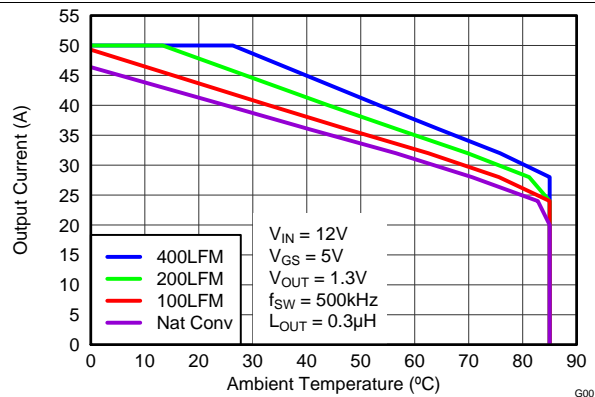
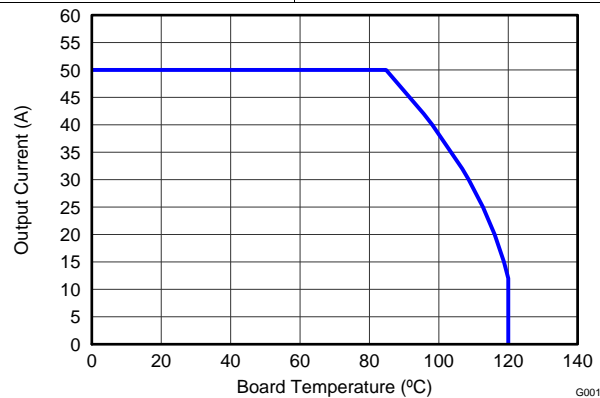

Figure 4. Safe Operating Area – PCB Vertical Mount (1)
Figure 6. Typical Safe Operating Area(1)
The SOA curves in the CSD86360Q5D data sheet provides guidance on the temperature boundaries within an operating system by incorporating the thermal resistance and system power loss. **Figure 4** to **Figure 6** outline the temperature and airflow conditions required for a given load current. The area under the curve dictates the safe operating area. All the curves are based on measurements made on a PCB design with dimensions of 4 in (W) × 3.5 in (L) × 0.062 in (T) and 6 copper layers of 1-oz copper thickness.